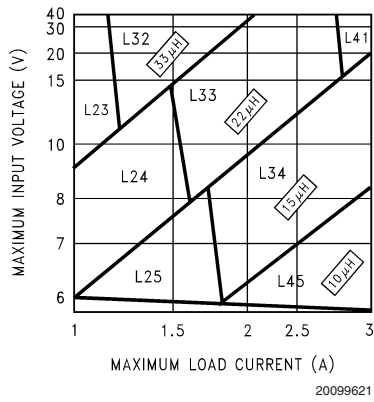
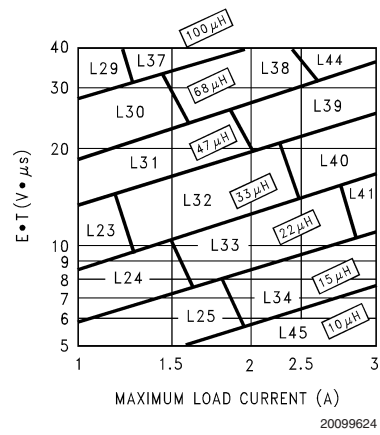

FIGURE 3. LM2676-3.3EP
FIGURE 6. LM2676-ADJEP
Step 3: Determine the inductor required by using one of the four nomographs, *Figure 3* through *Figure 6*. Table 1 provides a specific manufacturer and part number for the inductor.
Step 5: Determine an input capacitor from Table 4 for fixed output voltage applications. Use Table 2 to find the specific capacitor type. For adjustable output circuits select a capacitor from Table 2 with a sufficient working voltage (WV) rating greater than $V_{in\ max}$, and an rms current rating greater than one-half the maximum load current (2 or more capacitors in parallel may be required).
Step 3: Use the nomograph for the 3.3V device, *Figure 3*. The intersection of the 16V horizontal line ($V_{in\ max}$) and the 2.5A vertical line ($I_{load\ max}$) indicates that L33, a $22\mu H$ inductor, is required.
Step 3: To use the nomograph for the adjustable device, Figure 6, requires a calculation of the inductor Volt•microsecond constant (E•T expressed in V•μs) from the following formula:
Using Figure 6, the intersection of 27V•μs horizontally and the 2A vertical line (I_{load} max) indicates that L38, a 68μH inductor, should be used.
Important Note: When using the adjustable device in low voltage applications (less than 3V output), if the nomograph, Figure 6, selects an inductance of 22μH or less, Table 6 does not provide an output capacitor solution. With these conditions the number of output capacitors required for stable operation becomes impractical. It is recommended to use either a 33μH or 47μH inductor and the output capacitors from Table 6.